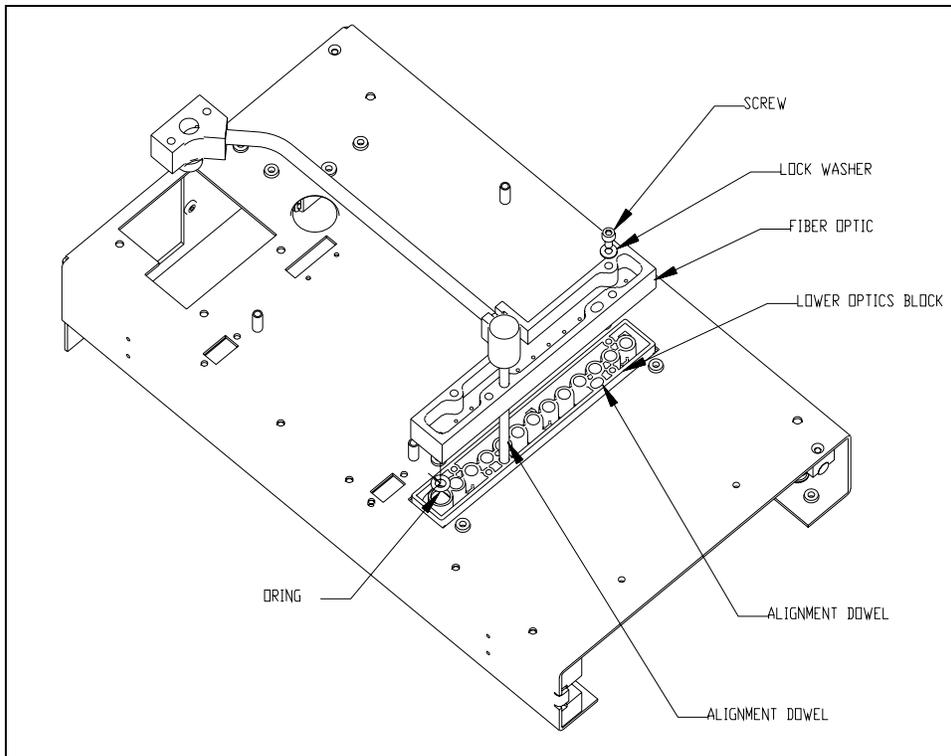

Figure 11-38 Lower Optic Block
- 1 Turn the unit over and remove the 4-M3 x 20mm socket head caps screws and M3 lock washers that secure the fiber optic bundle to the lower block. Set aside the reference diode O-ring for reassembly (Figure 11-38).